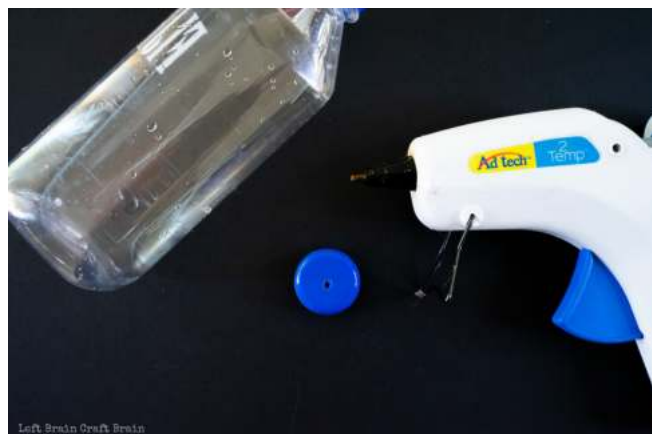

Figure 1: Make a hole in your bottle cap
- 1) Once your glue gun is hot, melt a small hole in the water bottle lid with the tip of the glue gun. If you are not using a glue gun, use something else to poke the hole such as a skewer. This is shown in figure 1.